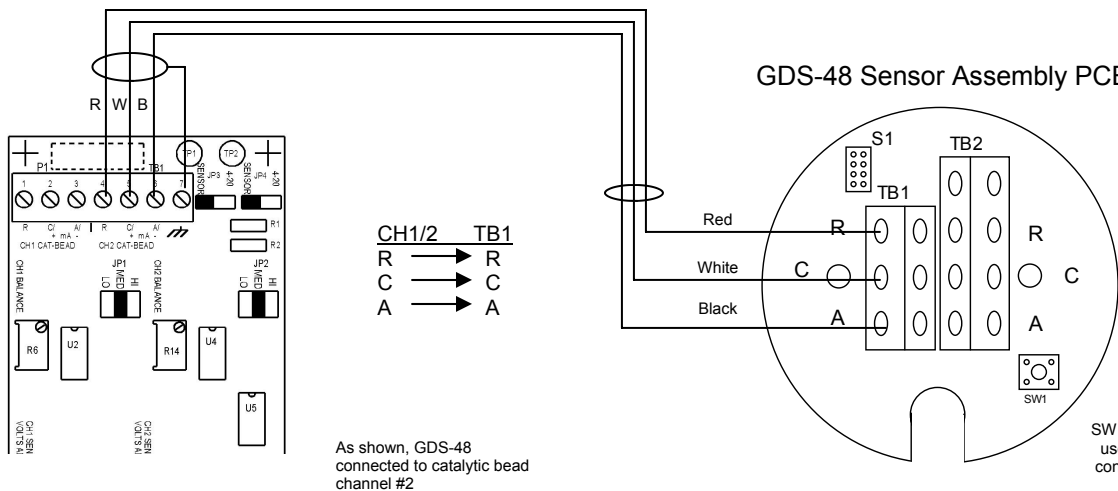

Fig 4. C2 Controller to GDS-48 Wiring Diagram for Catalytic Bead
- 3) Connect the C2 to the remote sensor housing as shown in Fig. 4. (R = Reference Bead, C = Common, A = Active Bead)